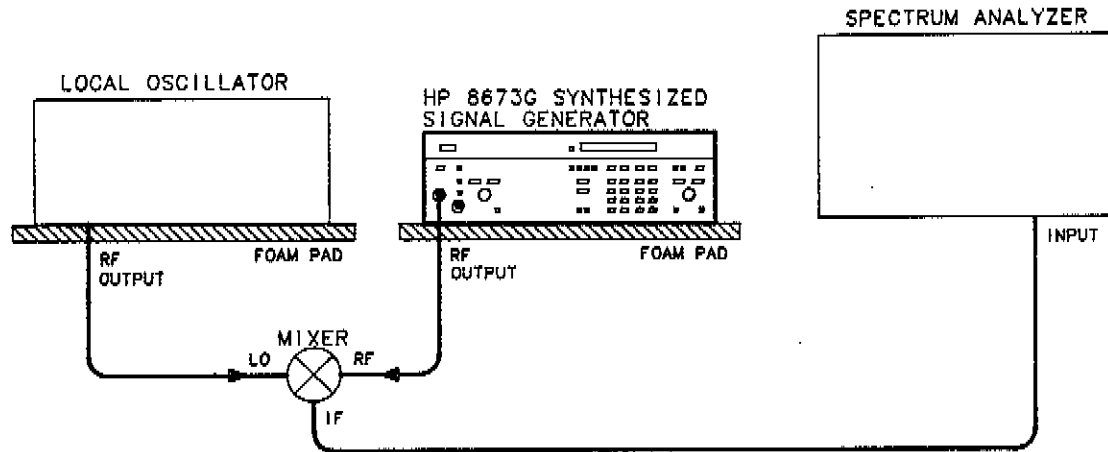

Figure 4-14. Power Line Related Spurious Signals Test Setup
1. Connect the equipment as shown in Figure 4-14.